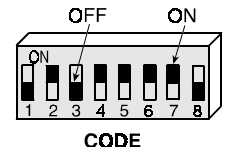

Figure 5. Code Selector
All models have an 8-position DIP switch (marked 1 - 8, see Fig. 5). Each switch may be set to ON or OFF, creating a unique digital system code.
**CAUTION:** The code combination 2, 4, 5, 6, 7 ON and 1, 3, 8 OFF (as shown in Figure 5) is a factory test code that should be avoided. Also do not select "easy" codes such as all keys ON, all keys OFF or alternating ON/OFF settings.